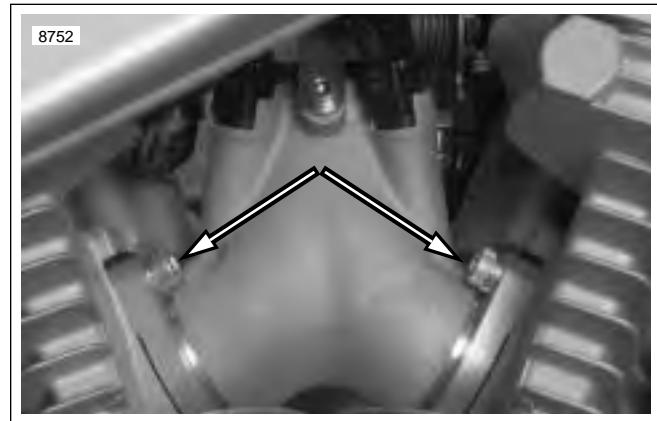

Figure 4-101. Intake Manifold Fasteners (Gearcase Cover Side)
- b. Remove fastener (1) holding manifold to engine mount.
- c. See Figure 4-101. On gearcase cover side, remove both intake flange fasteners from cylinder heads.